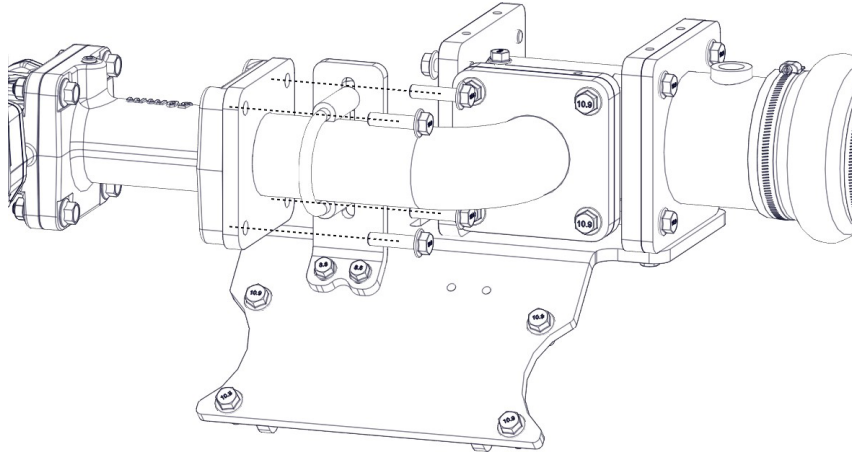

Figure 31.
5. Insert and torque the four MFG Valve bolts (Figure 31) to 30 ft/lbs.